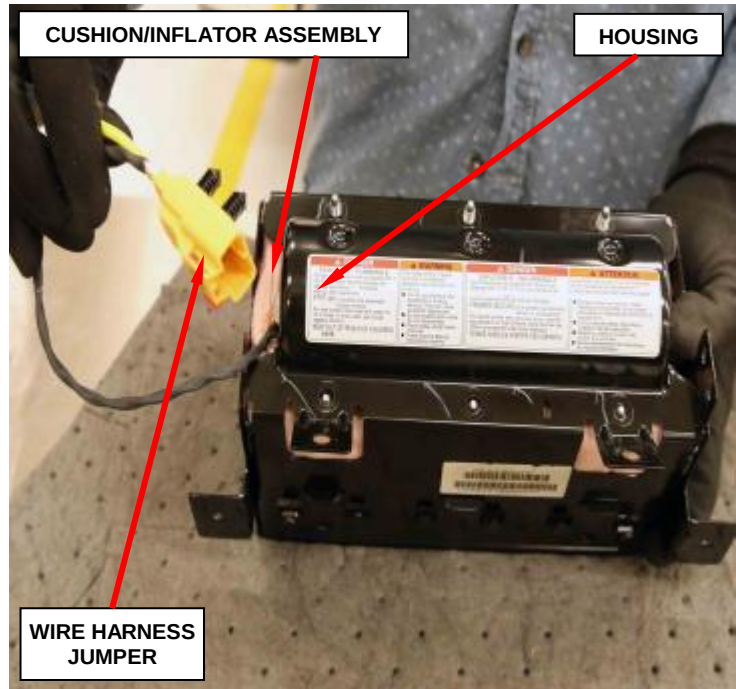

Figure 25 – Cushion/Inflator Assembly
- l. Install the cushion/inflator assembly into housing while feeding the wire harness jumper through the housing as shown. Ensure cushion fold is not disturbed (Figure 25).